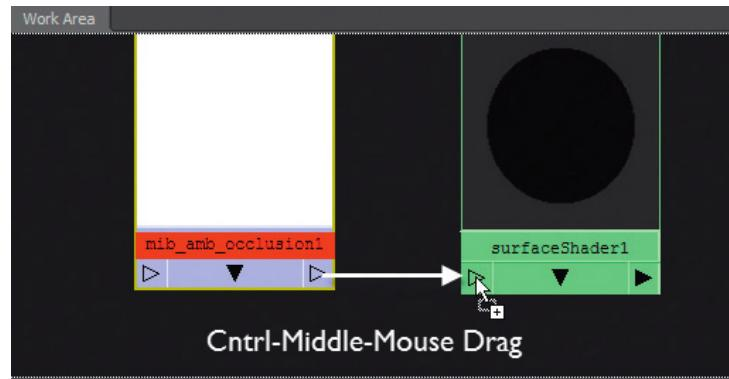

FIG 6.18 Connecting the AO to the surface shader.
Step 40: Connect these two new nodes in the Work Area. To do this, Cntrl-middle-mouse drag from the bottom right arrow of the AO (mib_amb_occlusion1) node to the bottom left arrow of the surfaceShader1 node (Fig. 6.18). This connects the output of the AO node to the input of the surface shader node. A green arrow will appear showing the connection.